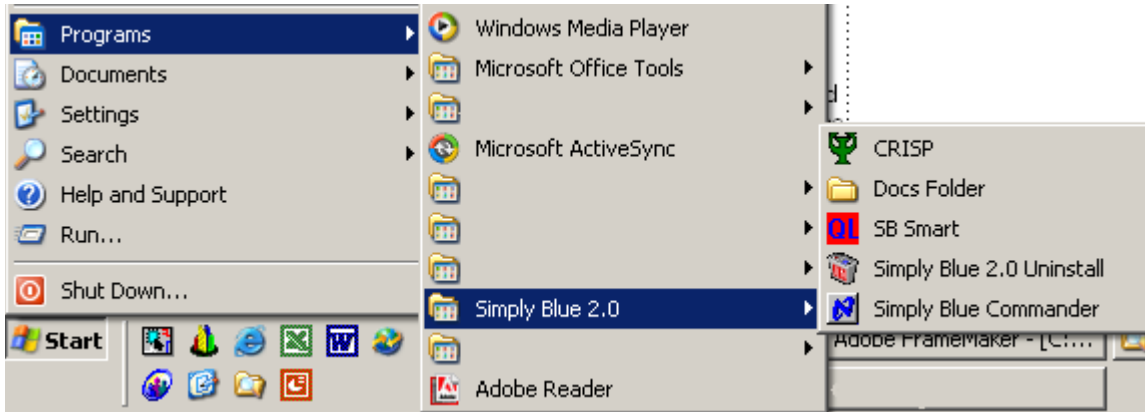

Figure 1-4. Simply Blue Shortcut
- 5) Shortcuts are installed at *Start->Programs->Simply Blue 2.0*. Reference Figure 1-4 on page 6.